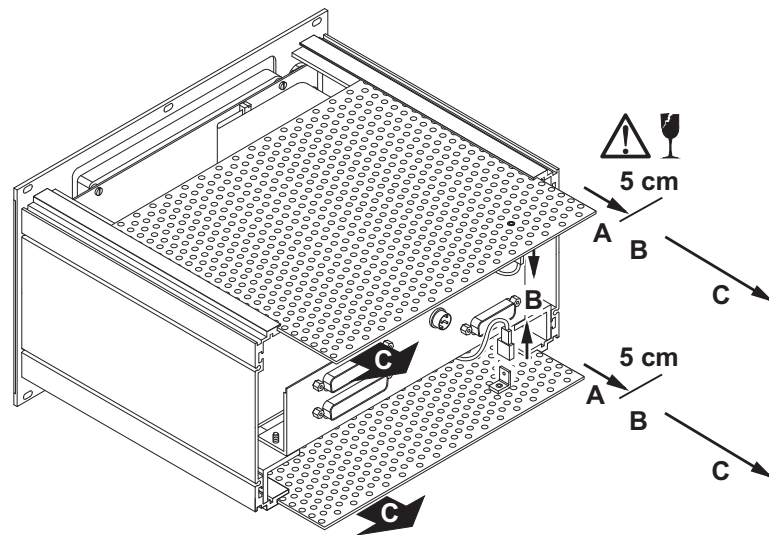

Fig. 8-3: Loosening of the ground cables and removing the cover plates
5. Carefully move the upper and lower perforated cover metal plate out for approx. 5 cm (A). Carefully remove the ground cables (B). Avoid damage of the flat cable and the locker because of canting. Then remove the perforated cover metal plate and store them. (Fig. 8-3)